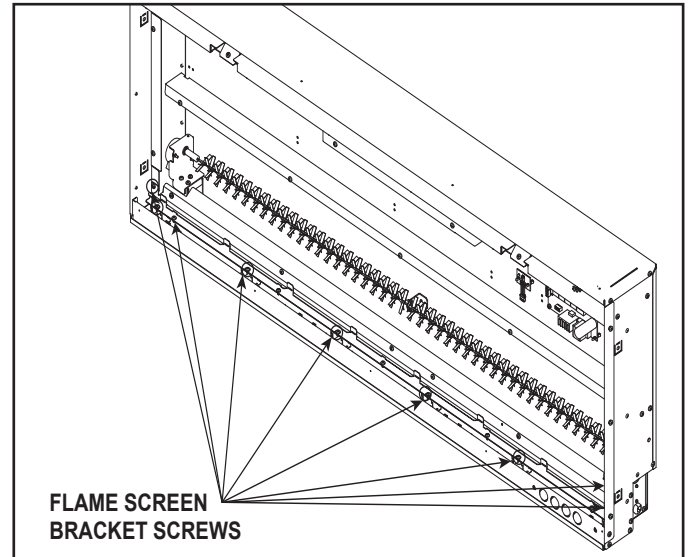

Figure 23 Remove Flame Screen Bracket Screws.
1. Remove screws used to attach the flame screen bracket. See Figure 23.
3. Unplug cable connection on each end of the LED Board. See Figure 23.